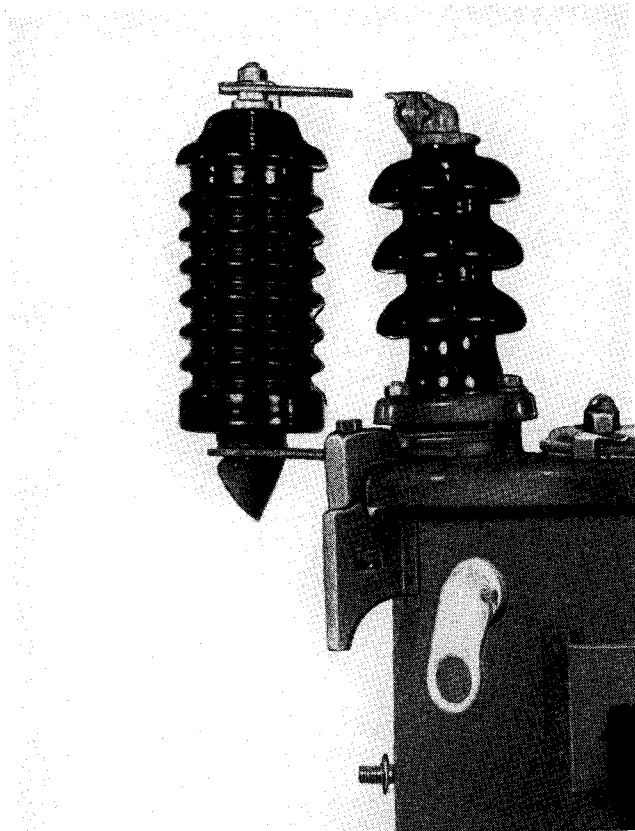

FIG. 1. Cover Mounted De-Ion Arrester.
**THE DE-ION ARRESTER** is a device which provides surge or lightning protection for electrical equipment. It differs from a plain gap in that it interrupts any power follow current within one-half cycle. It is designed to handle exceptionally high surge currents and will even discharge direct strokes of lightning successfully. Cover and wall mounted units are shown in Figs. 1 and 2, respectively.